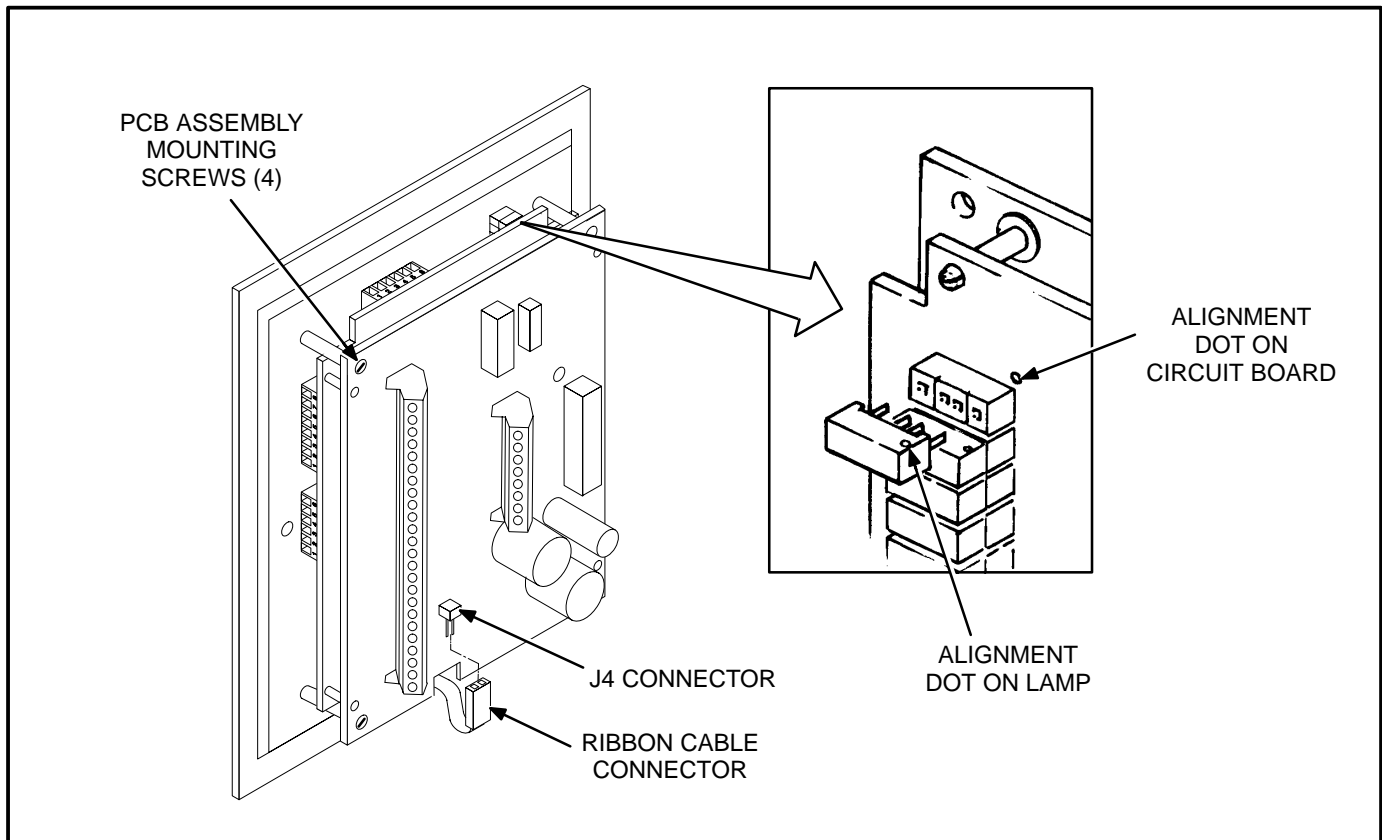

FIGURE 5. MODIFICATION SWITCH LOCATIONS
To access the lamps, remove the annunciator panel from the control box. Disconnect the ribbon cable connector J4 from the PCB assembly and remove the PCB assembly mounting screws (Figure 5). Pull the old lamp out from the socket. Insert the new lamp making sure the polarizing dot on the replacement lamp is aligned with the corresponding dot on the printed circuit board (Figure 5).
1. Verify that the J4 connector (membrane panel ribbon cable to PCB assembly) is secure (Figure 5). Press the Silence/Lamp Test pad.
2. Verify the orientation of each failed lamp. Make sure the polarizing dot on the lamp is aligned with the corresponding dot on the printed circuit board (Figure 5).